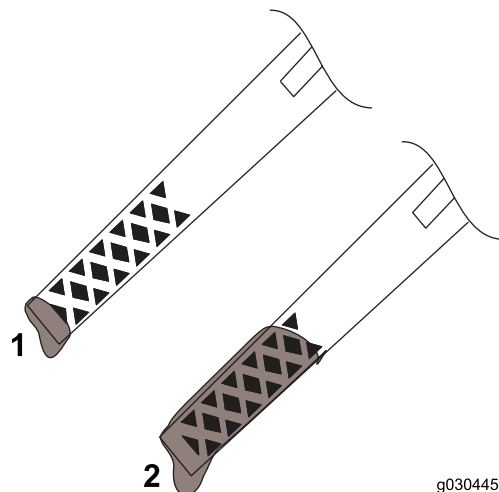

Figure 16
- If the oil level is below the Add mark on the dipstick (Figure 16), add oil. Refer to Changing the Engine Oil (page 13).